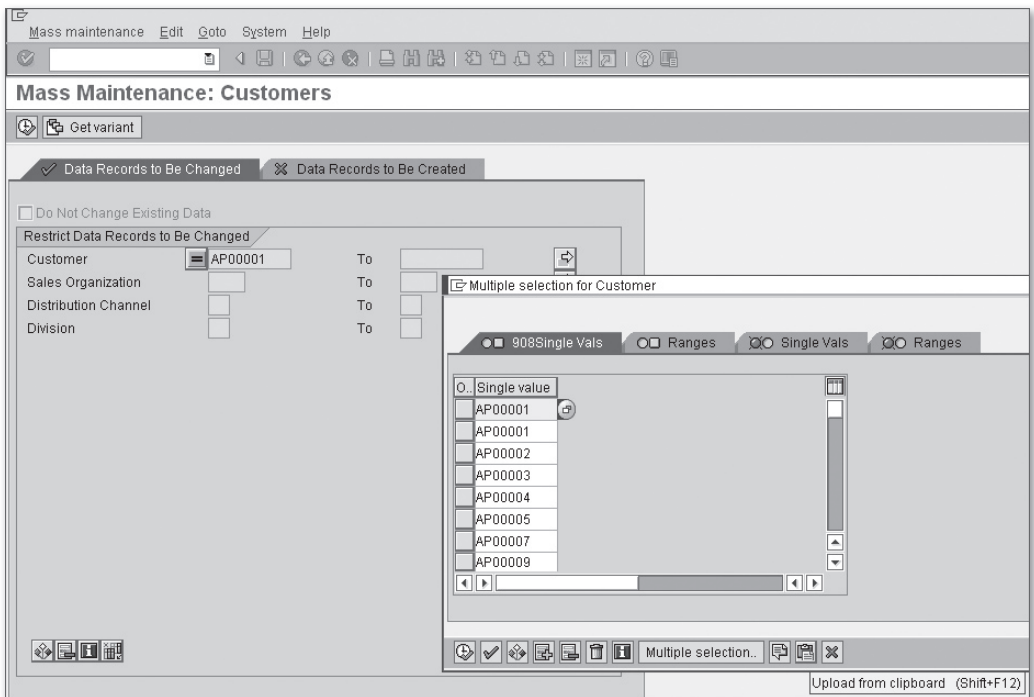
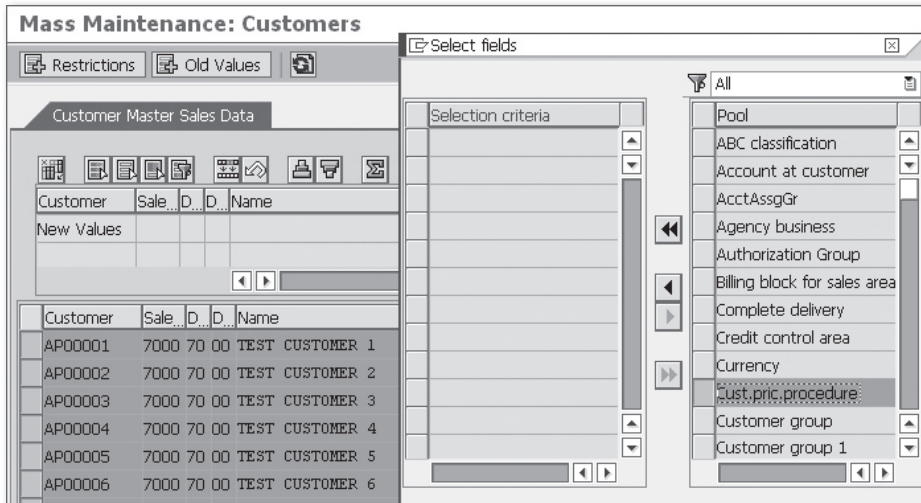

Figure 2.10 Uploading Customer List to be Modified
Figure 2.11 Inserting the KNVV-KALKS Field for Mass Maintenance
- Execute. This action results in the screen shown in Figure 2.10. For our example, because you know that all of the customers of a particular region are to be changed, you can get a list of the customers using Transaction SE16 or SE16N and Table KNA1. Paste the list, press **F8**, and select Display All Records. This results in a list of customers with the existing value in the Cust.Pric.Procedure field, as shown in Figure 2.11.
3. If you're using the Tables tab and not the Fields tab in step 1, click on the Select Fields icon. This is the first icon in the task bar shown in Figure 2.11.
4. A new dialog box opens, which is also shown in Figure 2.11. Select Cust.Pric. Procedure (KALKS) and bring it to the Selection Criteria table by clicking on the Choose icon (the black triangle pointing left).